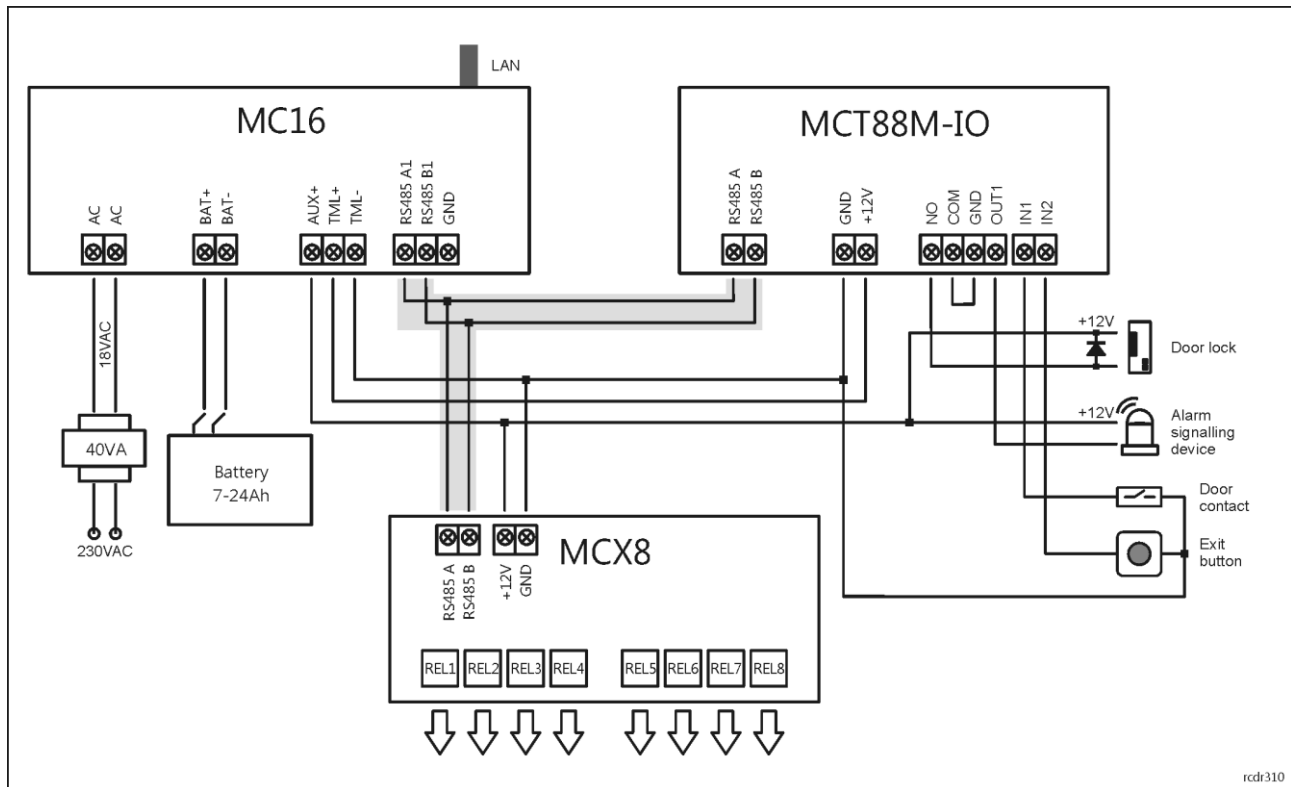

Fig. 17 Typical connection diagram for the terminal and MC16 access controller
The MCT88M-IO terminal when connected to MC16 access controller can be at the same time used for access control, Time&Attendance and building automation functionalities. The example of connection diagram for such scenario is shown in fig. 17 where the terminal's power supply line and RS485 bus are connected directly to the controller and relay outputs of MCX8 expander are used to control building automation. Alternatively the communication with MC16 access controller can be provided via MCX16-RS expander (fig. 3). The terminal can also operate with MC16 controller using MCX2D/MCX4D expanders as in case of M16-PAC-x-KIT series.
5. Select RS485 communication interface and specify unoccupied RS485 address in range of 100-115 or select Ethernet communication interface and specify IP address. Configure other low level configuration parameters as needed e.g. NC input type for IN1 input as for diagram in fig 17.